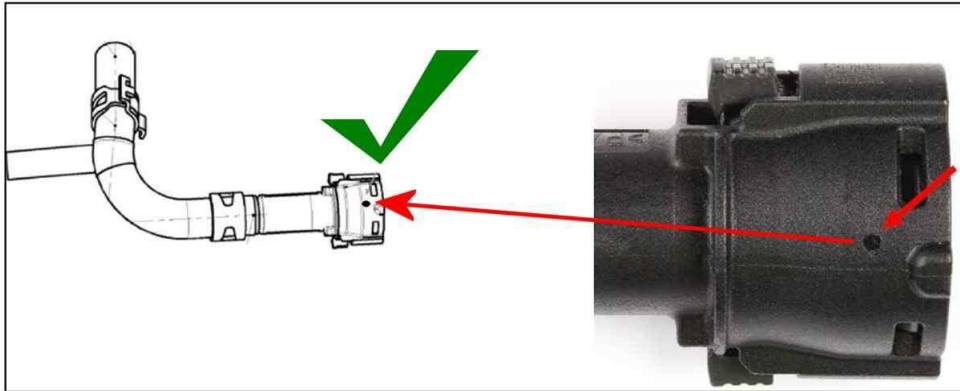

Figure 4
- Figure 4 also shows a close up example of a correctly orientated hose (see hole/dimple which is facing upwards)